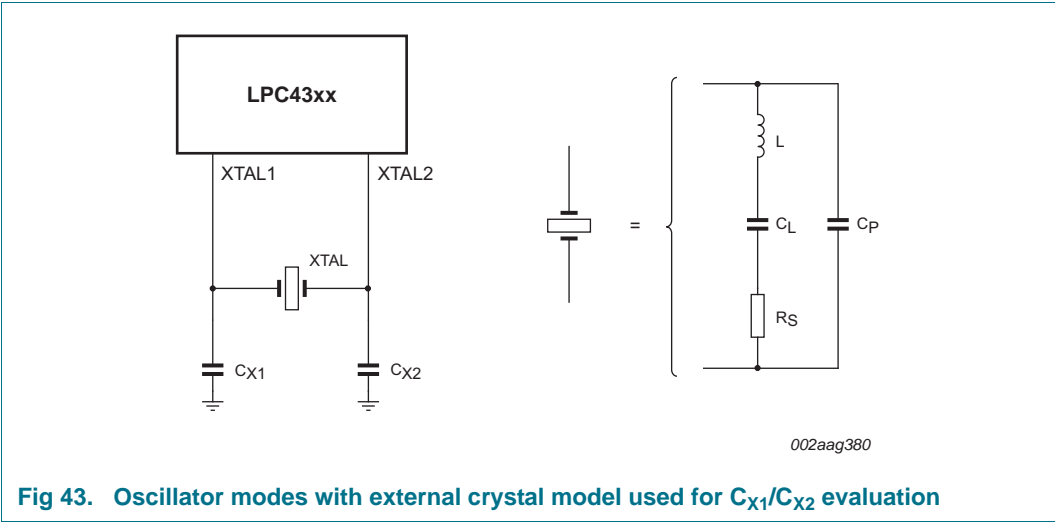

Fig 43. Oscillator modes with external crystal model used for C_{X1}/C_{X2} evaluation
- External components and models used in oscillation mode are shown in Figure 43, and in Table 36 and Table 37. Since the feedback resistance is integrated on chip, only a crystal and the capacitances C_{X1} and C_{X2} need to be connected externally in case of fundamental mode oscillation (L , C_L and R_s represent the fundamental frequency). The capacitance C_P in Figure 43 represents the parallel package capacitance and must not be larger than 7 pF. Parameters F_c , C_L , R_s and C_P are supplied by the crystal manufacturer.